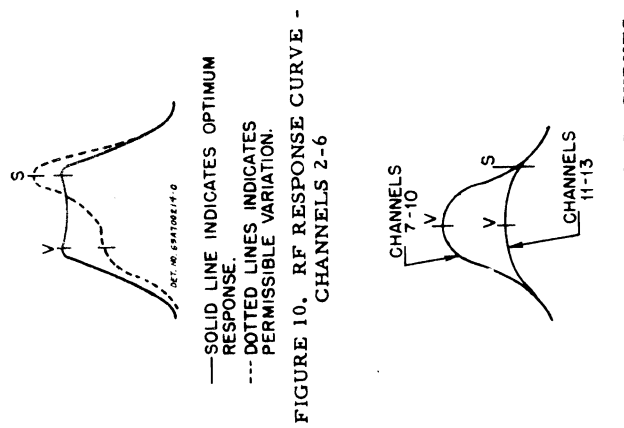
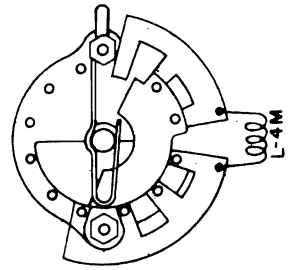

FIGURE 10. RF RESPONSE CURVE - CHANNELS 2-6
FIGURE 11. RF RESPONSE CURVES - CHANNELS 7-10 & 11-13
6. The antenna coils are tuned to the video carrier and the RF coils are tuned to the sound carrier. Figure 10 shows the shape of the curve which should appear on the scope for channels 2-6 and Figure 11 the curves for channels 7-13.
8. Adjust ceramic trimmer, C-6, so that picture and sound markers are as in Figure 11.
11. With the center frequency of sweep generator at the center frequency of channel 6 (85 mc) introduce markers corresponding to sound and picture carriers and compare with curve of Figure 10.